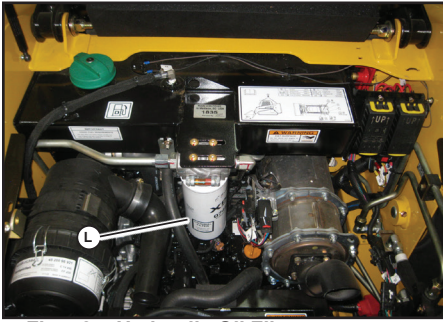

Fig. 72 - Hydraulic Oil Filter
- Remove the hydraulic oil filter (L, Fig. 72), using a filter wrench if necessary. Carefully clean the filter head mounting surface with a clean cloth.